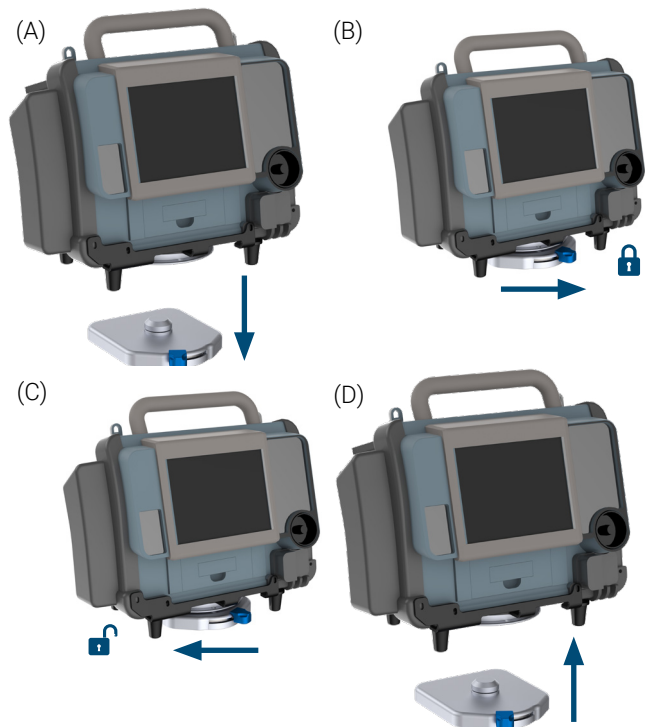

Figure 2: Operating the Universal Mounting Base™
1. Ensure that the blue quick release mechanism is pushed all the way towards the left, in the unlocked position (Figure 2 A).
2. Align to center and place the medical device onto the Universal Mounting Base™ (Figure 2 A).
3. Slide the blue quick release mechanism towards the right (Figure 2 B) to lock and secure the medical device in the base.
1. Slide the blue quick release mechanism towards the left (Figure 2 C) to unlock the medical device from the base.
2. Lift to remove the medical device from the base and set aside (Figure 2 D).